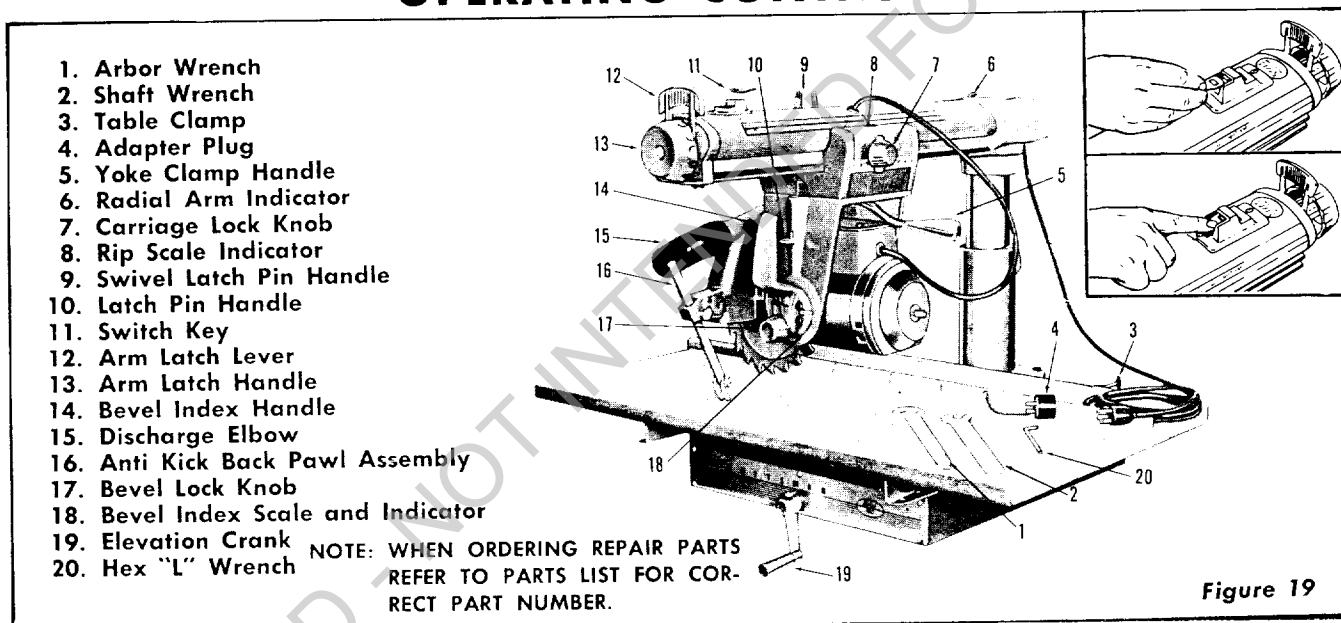
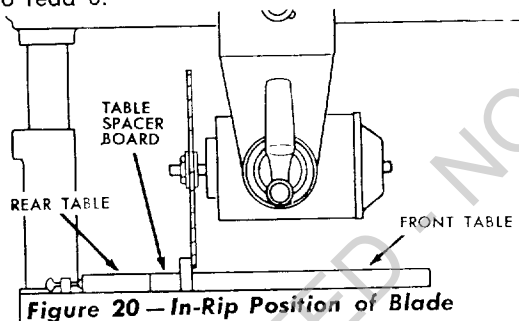

Figure 19
Figure 20 — In-Rip Position of Blade
RAISING AND LOWERING THE RADIAL ARM is accomplished by the elevation crank (Item 19, figure 19). One complete turn of this handle will raise or lower the radial arm $\frac{1}{8}$ ".
LOCKING THE CARRIAGE TO THE RADIAL ARM is accomplished by the carriage lock knob (Item 7, figure 19). Turn the knob clockwise to lock; counterclockwise to unlock.
ANGULAR MOVEMENT AND LOCKING OF THE RADIAL ARM are controlled by the arm latch lever (Item 12, figure 19) and the arm latch handle (Item 13, figure 19). The radial arm can be rotated 360° and locked in any position. The arm is unlocked from any position by a slight counterclockwise rotation of the arm latch handle and is locked in any position by rotating the arm latch handle clockwise until tight. The radial arm has positive stops at 0° and 45° left and right, and is released from these index positions by unlocking the arm latch handle and pulling out the arm latch lever (Item 12, figure 19).
2. Before moving the radial arm to the desired index position, turn the arm latch handle (Item 13, figure 19) just $\frac{1}{4}$ turn counterclockwise from the locked position.
MOVEMENT AND POSITION OF THE MOTOR IN THE YOKE are controlled by the latch pin handle (Item 10, figure 19) and bevel lock knob (Item 17, figure 19). The bevel scale indicates the angular position of the motor with respect to the horizontal from 0° to 90° in either vertical position. The latch pin handle automatically indexes the motor at 0° ,
MOVEMENT AND POSITION OF THE YOKE are controlled by the swivel latch pin knob (Item 9, figure 19) and the yoke clamp handle (Item 5, figure 19). The swivel latch pin automatically indexes the yoke at each 90° position and two 45° positions. Lift to release. The yoke clamp handle locks the yoke to the carriage in any position. Pull to release. Push to tighten. When "In Ripping" it may be desirable to have more free table in front of the saw blade than is obtainable when the radial arm is at the 0° position. With the blade in the normal cross-cut position index the radial arm to 45° left and lock it. Then loosen the yoke clamp handle and index the yoke 45° clockwise. Reclamp the yoke clamp handle. The added free table space is now to the right of the blade and ripping should be done from the right side of the table. The reverse is also true for "Out Ripping" by indexing the radial arm 45° right and indexing the yoke 45° counterclockwise. The added table space is now to the left of the blade and ripping should be done from the left side of the table.
Move the motor along the radial arm until the blade, when spun by hand, just touches the front face of the fence (See Figure 20). The indicator (Item 8, figure 19) on the "In-Rip" scale should now read 0. If not, shift the position of the indicator to read 0.